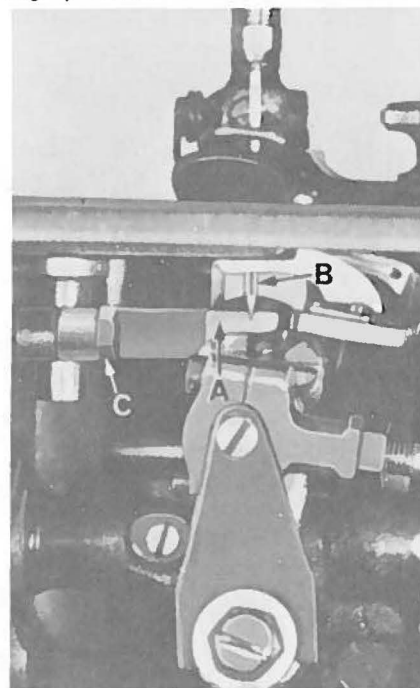

Fig. 12
Set rear needle guard (A, Fig. 12) horizontally so that it does not quite contact the rear of needle (B). A clearance of .005 inch (.127mm) is permissible. It should be set vertically so that its vertical face is even with the top of the needle eye, with needle bar in low position. To adjust needle guard, loosen clamp screw (C), move the needle guard on its holder as required and retighten screw. Stitch length can be changed without a change in the rear needle guard because it is not attached to the feed bar.